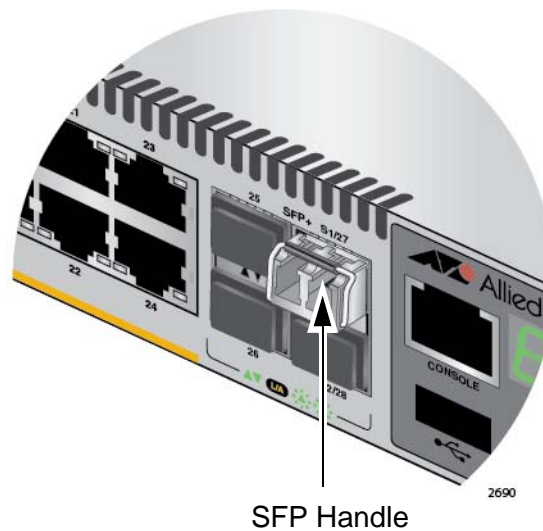

Figure 37. Positioning the Handle in the Upright Position
5. Verify the position of the handle on the transceiver. If the transceiver is in the S1 slot, the handle should be in the upright position, as shown in Figure 37. If the transceiver is in the S2 slot, the handle should be in the down position.